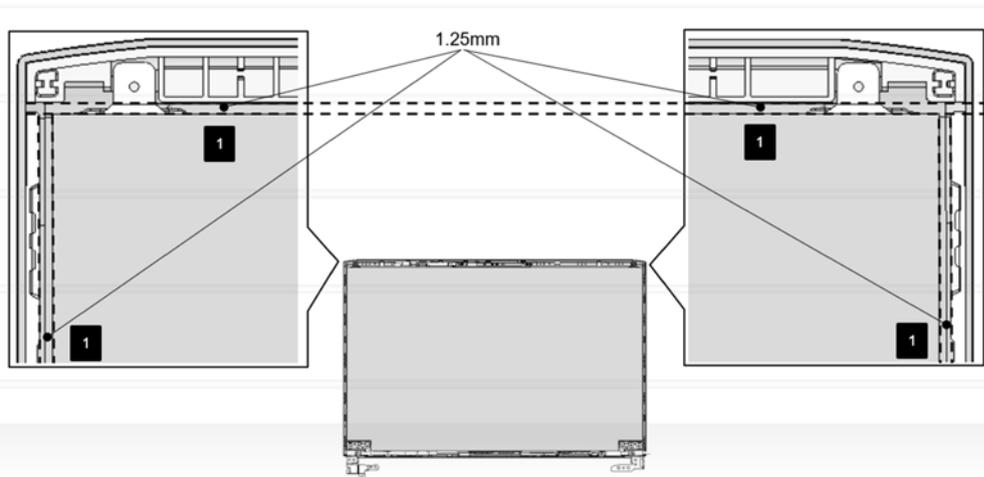

Figure 4-26 Panel assembly explanation (For P20)
6. For Panel P20 type : Rotate the panel right-side up and use 1.25mm Mylar between LCD cover and Panel to seat it in the correct position as shown in Figure 4-26.  ,1
10. For Panel P20 type: Rotate the panel right-side up and use 1.25mm Mylar between LCD cover and Panel to seat it in the correct position as shown in Figure 4-26.